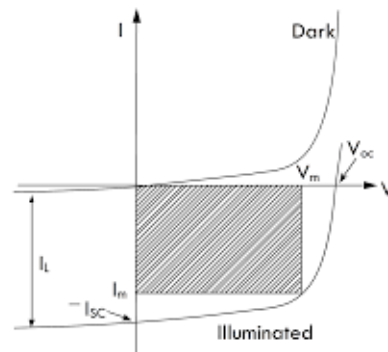

Figure 2
- From figure 2 below, maximum power is indicated by the shaded area. The corresponding voltage and current are V_m and I_m